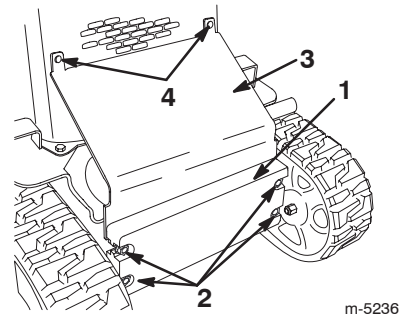

Figure 22
2. Loosen the bolts securing the front weight (Fig. 22).
3. Remove the carriage bolts and nuts securing the heat shield (Fig. 22).
10. Slide the front screen between the frame and the front weight and secure it to the grill using the carriage bolts and nuts removed previously (Fig. 22).
11. Tighten the bolts securing the front weight (Fig. 22).